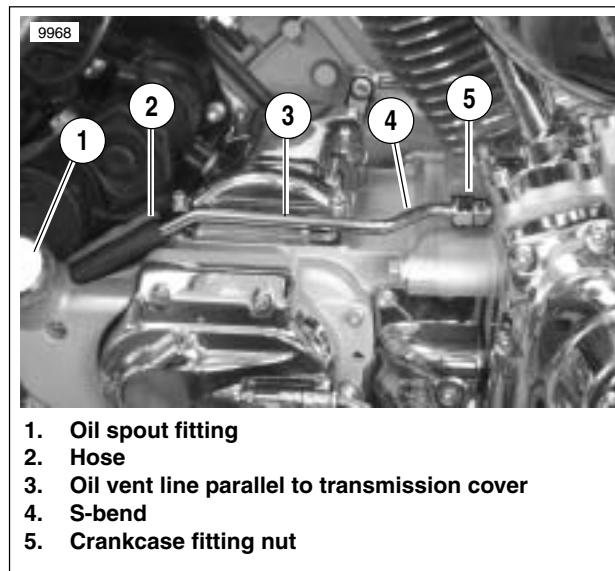

Figure 3-15. Oil Vent Line (clamps removed)
- See Figure 3-15. Back the chrome nut off of the crankcase oil fitting.